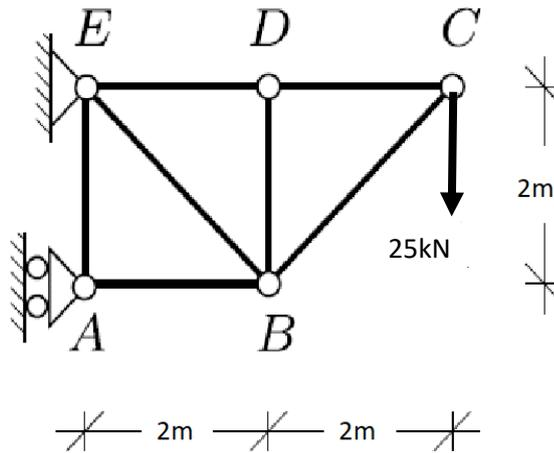

Fig.1
- 11 a) Analyse the truss in Fig.1 by method of joints. (10)